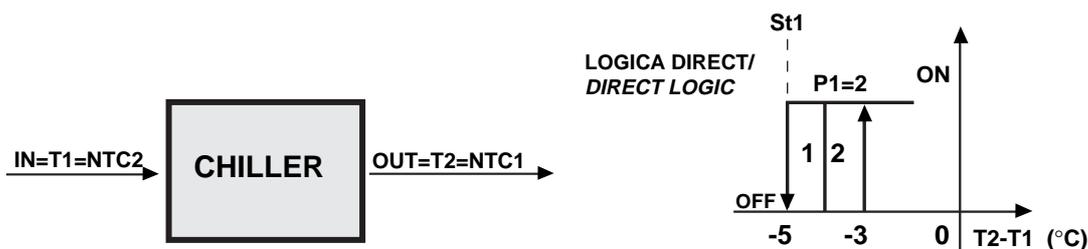

Fig.19
**Solution 1b:** if you want to give priority to T2 (e.g. low temperature threshold= $6^{\circ}\text{C}$  with one minute's delay) locate the main sensor NTC1 at the water outlet. The parameters will be set as follows:  $St1=-5^{\circ}\text{C}$  ( $NTC1-NTC2$ , that is  $T2-T1$ ), direct mode ( $C0=1$ ).  $P25=6$  and  $P28=1$  (min.) allow you to set the low temperature alarm, as shown in the diagram below (fig. 19):